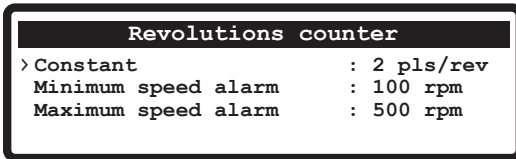

Fig. 33
**If the RPM sensor is not installed, select Disabled in the Constant menu. If the constant is enabled press F4 (page 13) to disable it. The Minimum speed alarm and Maximum speed alarm (Fig. 33) items will no longer be displayed**